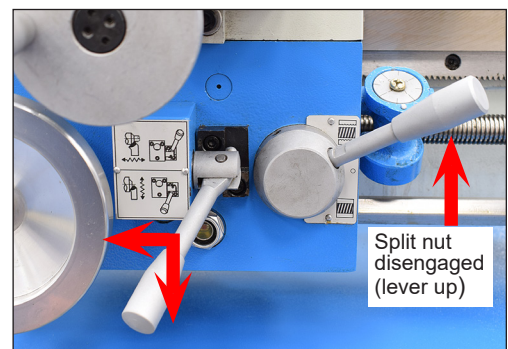

Figure 1-7 Cross-slide feed
4. Test the cross-slide power feed in a similar way, Figure 1-7.